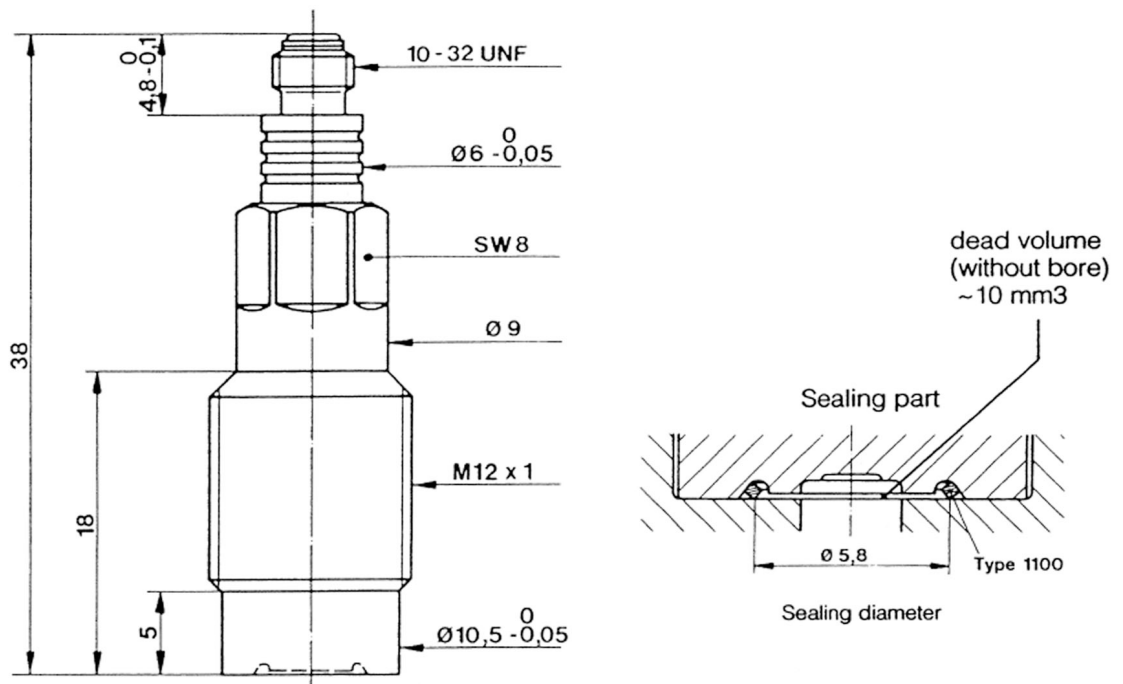

Fig. 2: Dimensions of the sensor Type 6213B and of the sealing part
- Because sealing is effected at the front end (Fig. 2), the dead volume resulting from the installation is particularly small – less than with the previous shoulder sealing high-pressure sensors Types 6201 ... 6211.